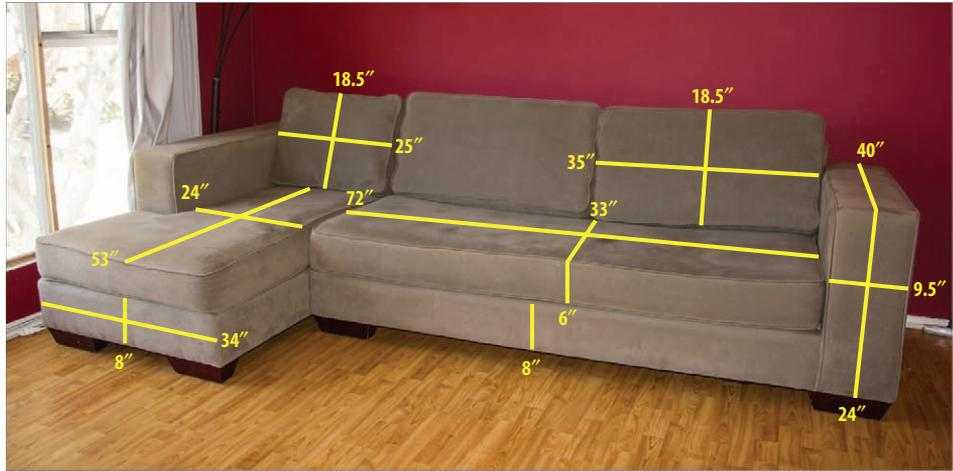

FIGURE 4.1 Couch with measurements
When you are starting a modeling project, make sure you have plenty of measurements, as shown in Figure 4.1, the photo of the couch you'll model in this chapter. Always remember: reference, reference, reference. Modeling this couch is a very straightforward process. If you break it down into separate components, it is just 16 different-sized boxes. The boxes are soft and cushy; they have various details, but nonetheless they are still just boxes. With the exception of the lounge end of the couch, the top cushion is the only piece on the couch that isn't a box shape.
Blocking out the model means creating a simpler version of the model starting with whatever primitives fit the bill—in this case, boxes. Using the measurements shown in Figure 4.1, you will create a series of boxes and then orient them to mimic the couch. The first piece you'll create is the bottom (the part between the seat cushions and the feet). It is 8 inches high by 72 inches wide by 33 inches deep. In the previous chapter, you used standard units of measurement (feet and inches); but for this chapter, you will use the default generic units. If your units are still set to feet and inches, refer to the section “Units Setup” in Chapter 3, “Modeling in 3ds Max: Architectural Model Part I” to review how to change the setting to generic units. Then follow these steps:
- Now for the back piece: this is the part the back cushions sit on. You don't see it in the picture in Figure 4.1, but it is there.
18. Create three backrest cushions (two the same size and one that is smaller). As you are creating the couch pieces, name them. Use descriptive names to help you keep the project organized. Refer to Figure 4.1 for the measurements.
If you refer to the picture of the couch from Figure 4.1, you'll see that the arm is much more structured and closer to the shape of a box than this deflated balloon. You still need to sharpen the corners by adding more edges to the base model.
If you refer to the picture in Figure 4.1, you can see that the couch arm is even more squared off than the current mesh. In the next section, you will learn how to add more detail.